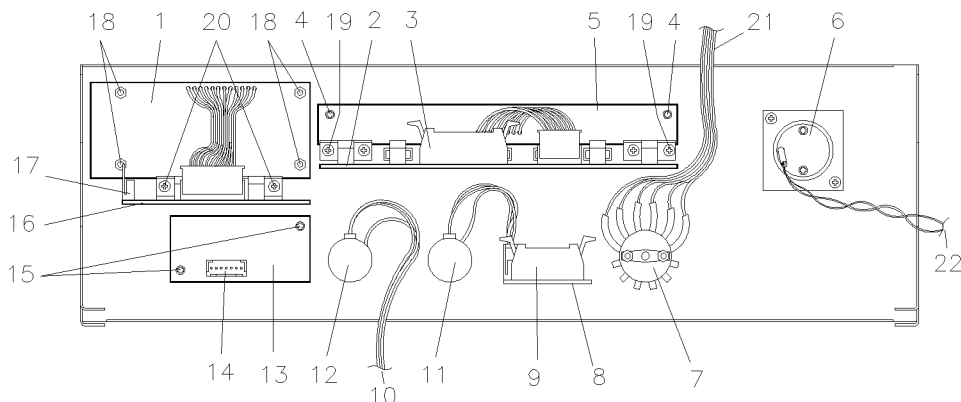

Figure 3-4. Front Panel Assembly
D. Figure 3-4 identifies the various components of the front panel assembly. The figure also indicates those screws which secure a board, and provides cabling information.
- a. Disconnect any cables associated with the assembly to be removed. Refer to Figure 3-4 for the locations of these cables.
- a. Disconnect any cables associated with the board. Refer to Figure 3-4 for the locations of these cables.
- b. Remove the screws which secure the board (Figure 3-4) and remove the board.